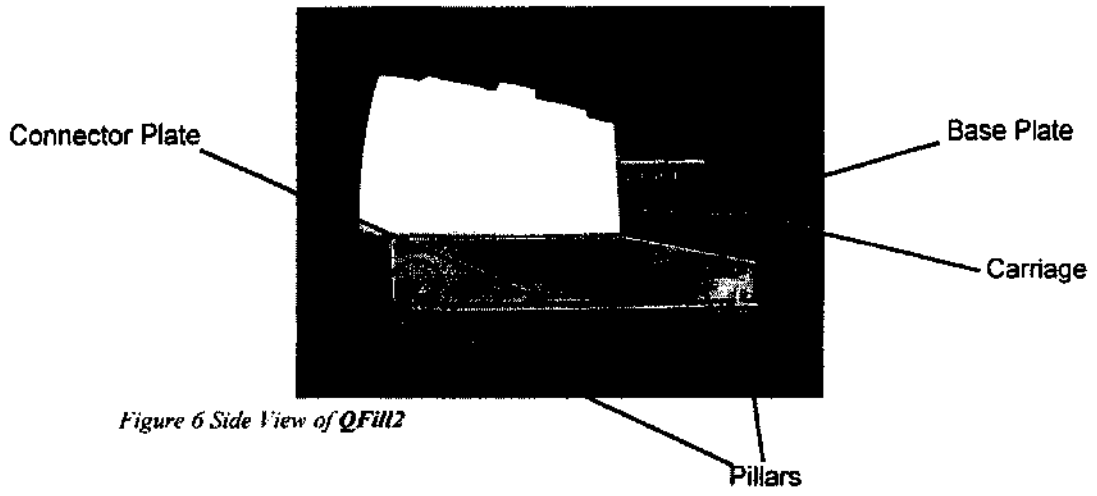

Figure 6 Side View of **QFill2**
1. Screw the base plate onto the **QFill2** carriage (Figure 6).
3. Align the holes in the connector plate with the holes in the base of the **QFill2** and replace the screws so that the connector plate is attached to the **QFill2** with the pillars pointing up (Figure 6).